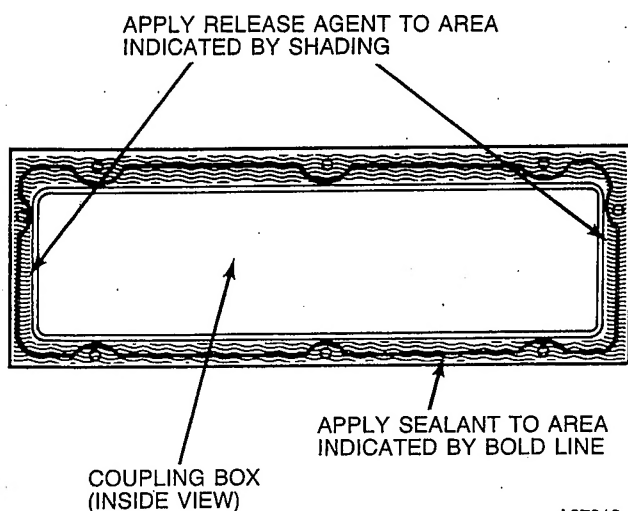

Fig. 8—Inside View of Coupling Box
- a. Apply sealant releasing agent (Pam) to cell panel where coupling box flange matches. (See Fig. 8.)